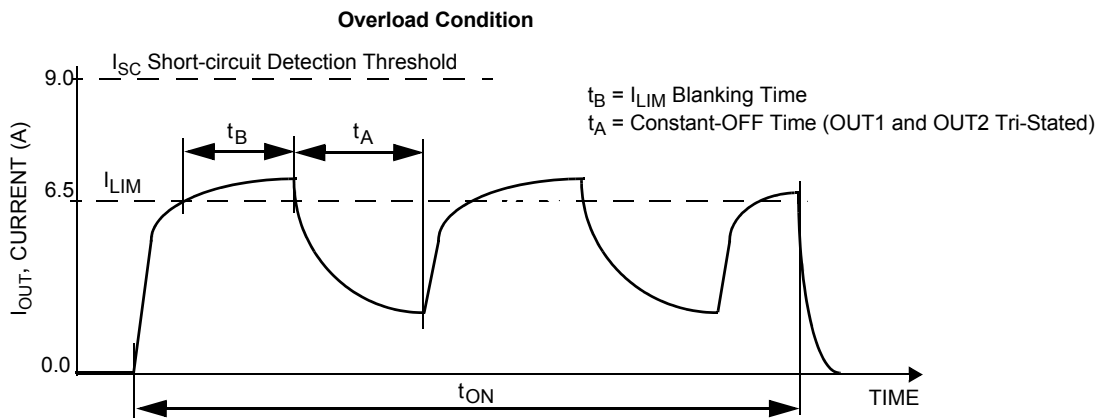
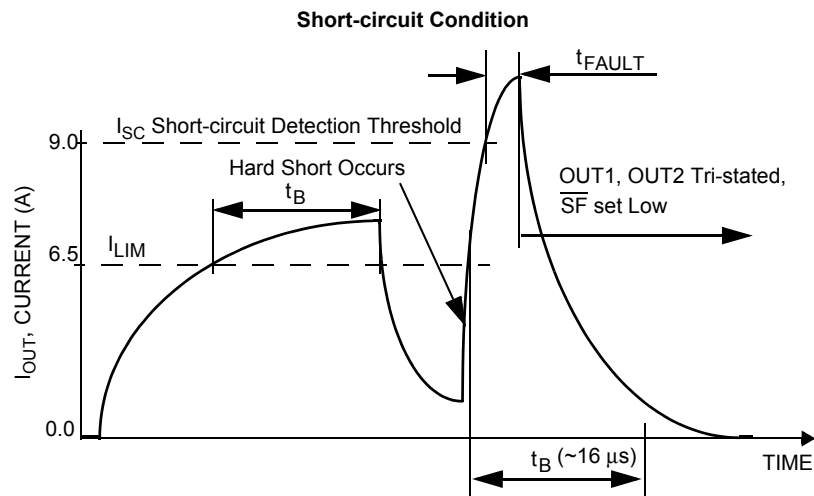
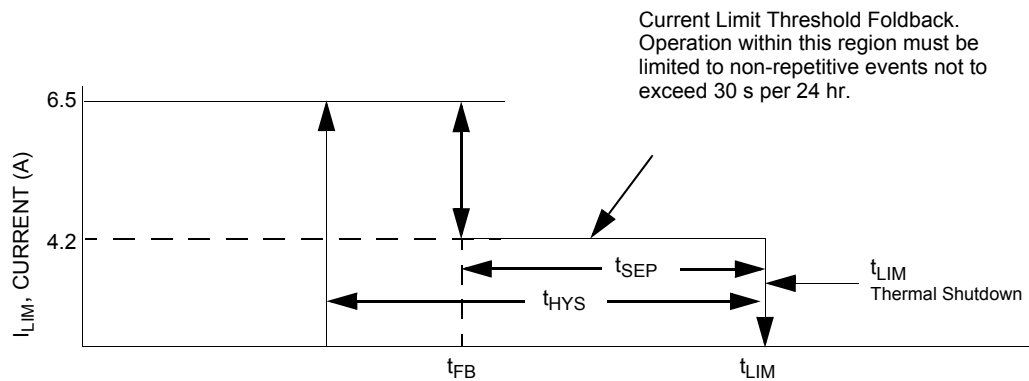

Figure 7. Current limit blanking time and constant-off time
Figure 8. Short-circuit detection turn-off time t_{FAULT}
Figure 9. Output current limiting foldback region
28. Load currents ramping up to the current regulation threshold become limited at the I_{LIM} value (see Figure 7). The short-circuit currents possess a di/dt which ramps up to the I_{SCH} or I_{SCL} threshold during the I_{LIM} blanking time, registering as a short-circuit event detection and causing the shutdown circuitry to force the output into an immediate tri-state latch-OFF (see Figure 8). Operation in Current Limit mode may cause junction temperatures to rise. Junction temperatures above $\sim 160\text{ }^{\circ}\text{C}$ causes the output current limit threshold to "fold back", or decrease, until $\sim 175\text{ }^{\circ}\text{C}$ is reached, after which the T_{LIM} thermal latch-OFF occurs. Permissible operation within this fold back region is limited to non-repetitive transient events of duration not to exceed 30 seconds (see Figure 9).